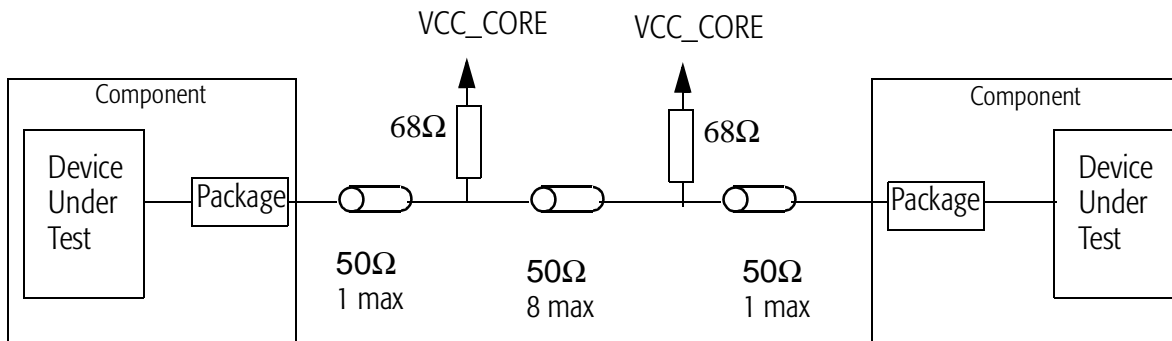

Figure 8. Test Circuit
– Test Circuit used—See Figure 8 on page 33.